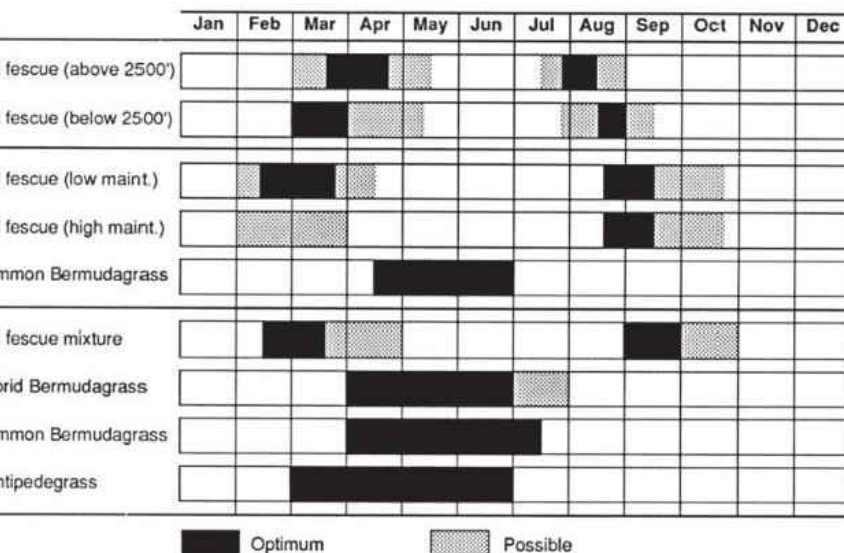

Figure 6.11b Calendar for permanent seeding recommendations by region.
- Minimum Requirements: Surface roughening: slopes steeper than 3:1 should be roughened by tracking, grooving, or furrowing. Amendments: lime and fertilizer, incorporated 4-6 inches where conditions allow (refer to Seedbed Preparation, below). Seed quality: North Carolina certified seed, tested within the past 9 months. Planting date: appropriate for region and species (Figure 6.11b). Plants: recommended erosion control plants are listed in Table 6.11a. Select a seeding mixture from those shown in Tables 6.11b-g. Mulch: 75% of the ground surface covered with approved material (reference Practice 6.14, Mulching). General: inspect seeded areas 2-4 weeks after seeding. Repair and reseed as necessary.
Seeding Seeding dates: Use the seeding calendar shown in Figure 6.11b. As you vary from the recommended dates, these probability of failure increases rapidly. If rescheduled outside these dates, use temporary seeding until preferred date for permanent seeding (reference Practice 6.10, Temporary Seeding). Select a seeding mixture from Tables 6.11b-g based on region (Mountains, Piedmont, Coastal Plain), soil characteristics, slope, and level of maintenance. Table 6.11a lists characteristics and applications of grasses and legumes used in the mixtures. Inoculate legume seed to ensure good growth. Cut-and-fill soils are likely to be deficient in the appropriate bacteria. Seeding rates in Tables 6.11b-g are based on poor growing conditions that typically exist, and a need for dense growth. Higher seeding rates will not substitute for good seedbed preparation. Apply seed uniformly, using a cyclone seeder, drop-type spreader, drill, cultipacker seeder, or hydroseeder. When using a drill seeder, plant rye or other grains not more than 1 inch deep, grasses and legumes not more than 1/2 inch. Calibrate equipment in the field. Cover seed by raking chain-dragging, or dragging a brush or mat, then firm the soil lightly with a roller. Seed can also be covered with hydro-mulched wood fiber and tack. Do not roll hydro-mulched seed.
Inadequate seedbed preparation-a well tilled, limed, and fertilized seedbed is the most important step in vegetative establishment. Unsuitable choice of plant materials-do not plant Bermudagrass in the fall, Kentucky bluegrass in the Coastal Plain, or annual ryegrass in a permanent seeding mixture. Nurse crop rate too high in mixture-competes with perennial; limit rates to those shown in Tables 6.11b-g. Seeding at the wrong time of year-consult Figure 6.11b. If timing is not right, use temporary seeding to stabilize soil until preferred seeding dates. Inadequate mulching-cover area evenly and tack or tie down well, especially on slopes, ridges, and in channels.